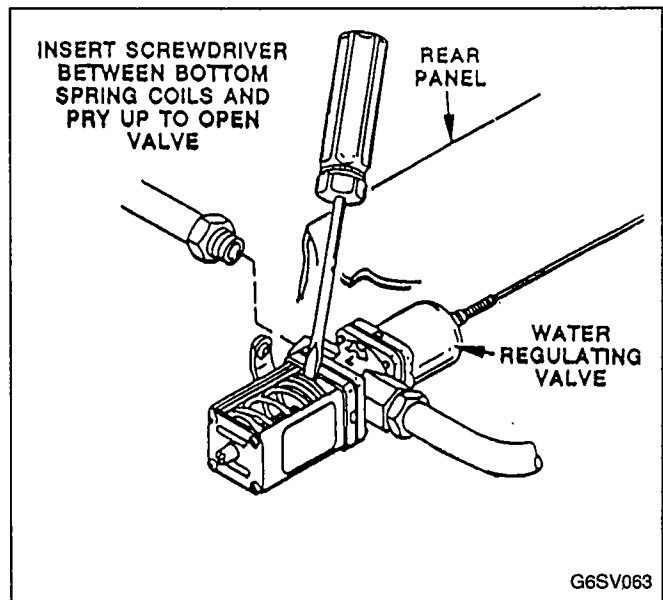

FIGURE 70. MANUALLY OPENING WATER REGULATING VALVE
3. Pry open water regulating valve by inserting large standard screwdriver between bottom spring coils of valve. Pry spring upward to open valve, Figure 70.